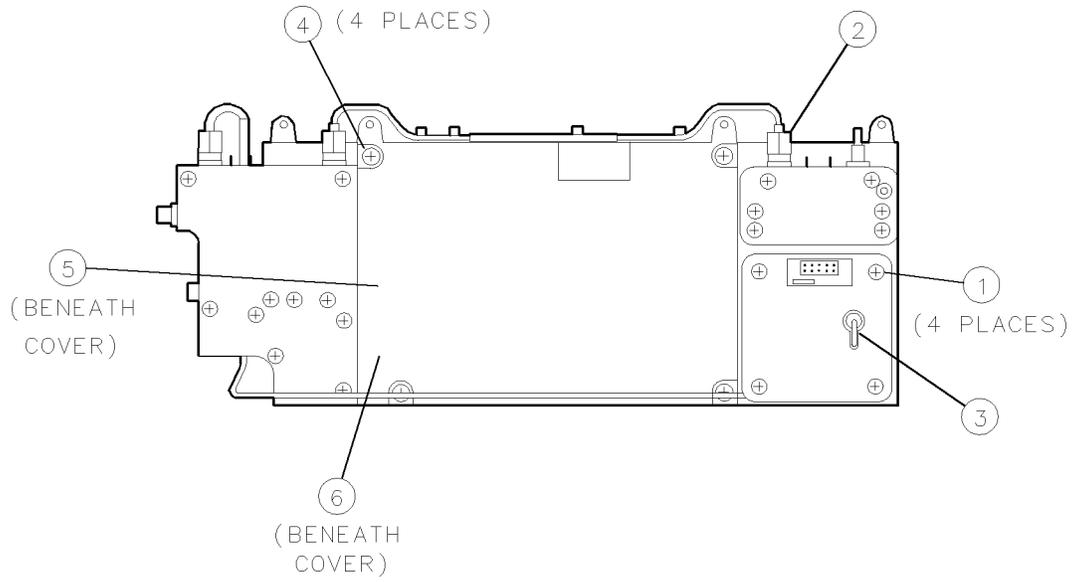

Figure 9-9. A6A2 YTO Lock Removal/Replacement
2. Remove semirigid cables A6W16 ② and A6W18 ③ from the A6 YTO phase-lock loop.
3. Remove the four screws ① securing the A6A5 YTO cover and remove the cover. See Figure 9-9.
4. Remove four screws ④ and with the cover side down, remove the A6A2 YTO lock cover.
5. Disconnect cables A6W2 and A6W3 ⑤ from the A6A2 YTO lock.
6. Remove the screw ⑥ from the assembly and remove the A6A2 YTO lock from the casting.